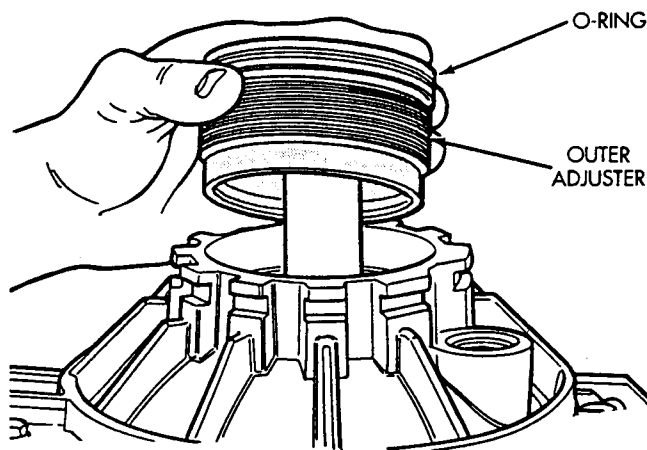

Fig. 20 Outer Adjuster Installation
(23) Screw on outer adjuster and tighten adjuster down finger tight (Fig. 20).